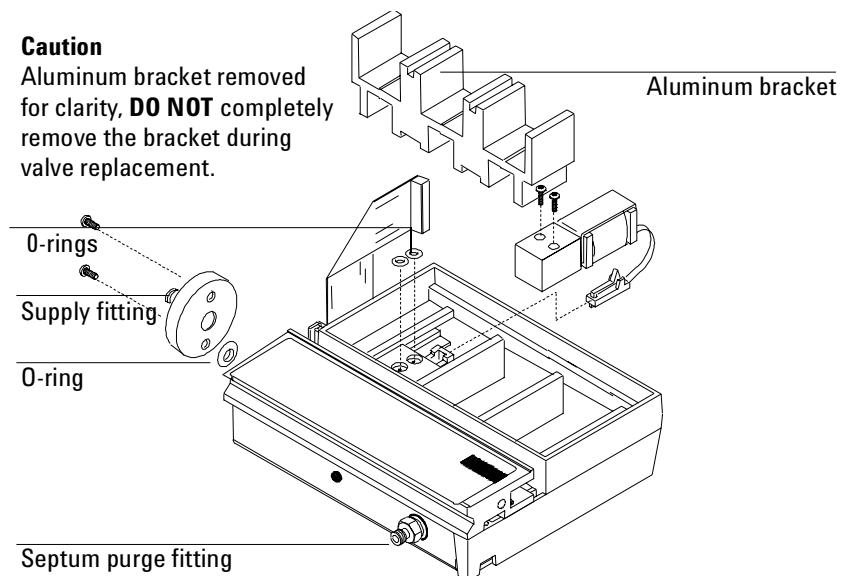

Figure 230-11 EPC module serviceable parts
10. If the leaky component is serviceable, such as vent/inlet fittings (see the following diagram of serviceable parts, Figure 230-11), replace them. Otherwise, replace the EPC module.